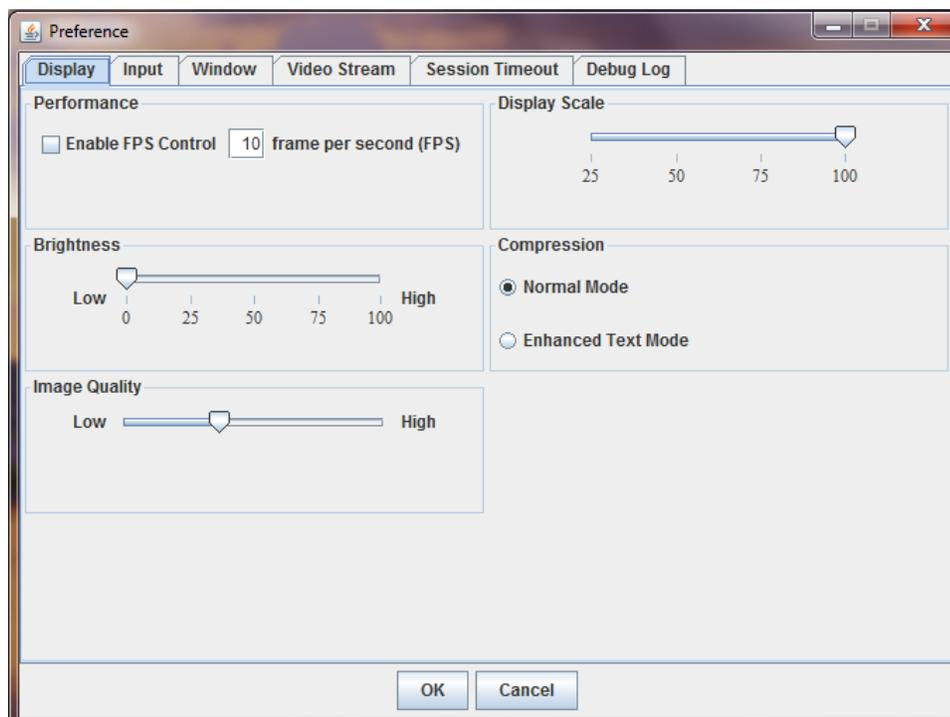

Figure 25. Remote Console Display Settings
- **Display** (Figure 25) – Adjust display brightness, image quality, display scale and compression mode and enable FPS control by specifying frames per second.